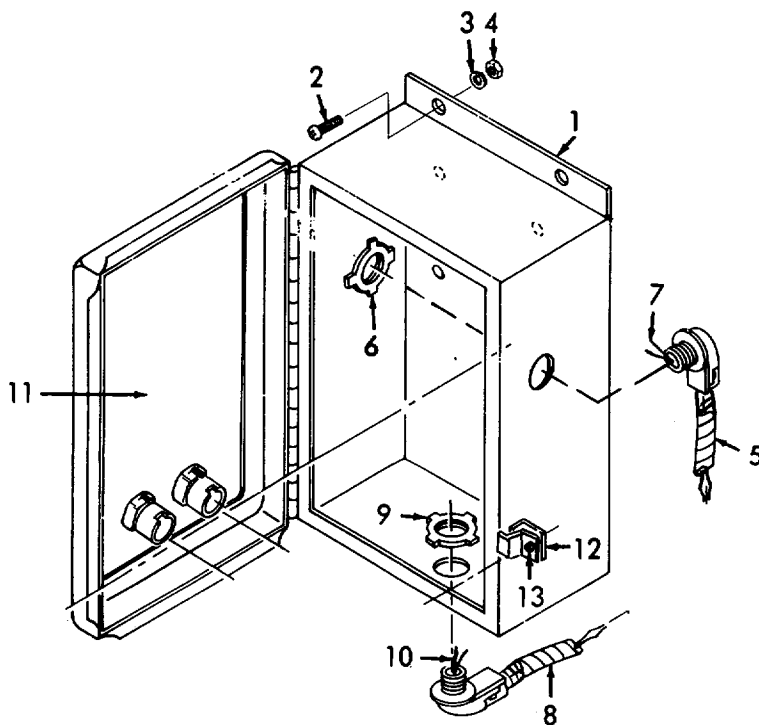

Figure 3-6. Motor Starter Box, Installation.
g. *Installation.* (Refer to Figure 3-6).